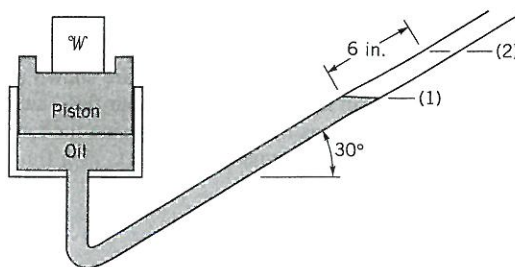

Figure P2.74
2.74  A 6-in.-diameter piston is located within a cylinder that is connected to a $\frac{1}{2}$ -in.-diameter inclined-tube manometer as shown in Fig. P2.74. The fluid in the cylinder and the manometer is oil (specific weight = 59 lb/ft^3). When a weight, W , is placed on the top of the cylinder, the fluid level in the manometer tube rises from point (1) to (2). How heavy is the weight? Assume that the change in position of the piston is negligible.